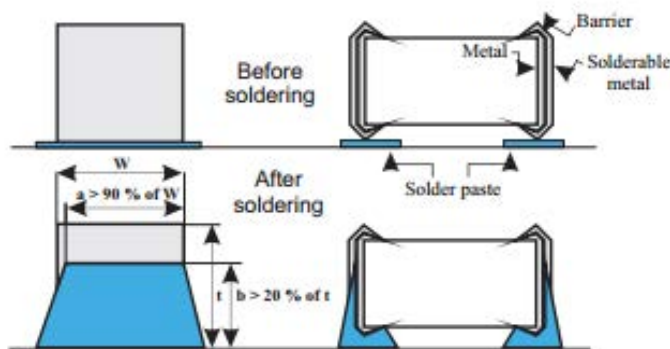

Fig. 4 – Soldering Criterion in case of Wave and IR Reflow Pb-containing Soldering
**Pb-containing Wave and IR Reflow Soldering** – typical “before” and “after” soldering results for Barrier Type End Terminations can be seen in Fig. 4. Barrier type terminated varistors form a reliable electrical contact and metallurgical bond between the end terminations and the solder pads. The bond between these two metallic surfaces is exceptionally strong and has been tested by both vertical pull and lateral (horizontal) push tests. The results exceed established industry standards for adhesion.